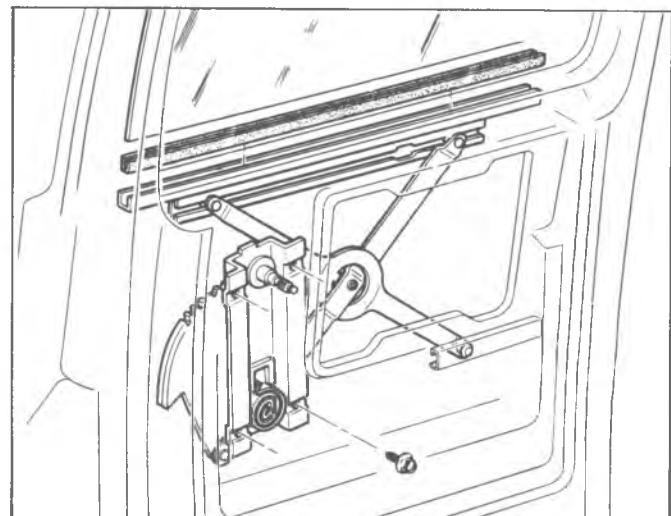

Fig. 40—Window Glass and Regulator Assembly
WINDOW GLASS—FIG. 40
- channel. See figure 40. Disengage roller from channel.
WINDOW REGULATOR ASSEMBLY—FIG. 40